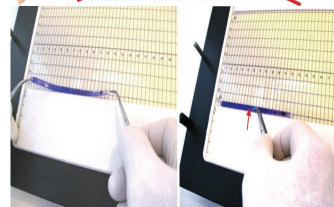

Fig. 8
12. Trim the film support of the IPG strips on both sides. Place the IPG strips gel-side down, anodal sides to the right, into the slots of the double or triple gels and push them carefully towards the anode edges of the slots (fig. 8). Gently slide along the backing of the strips with the forceps to ensure good contact to the bottom of the slots.